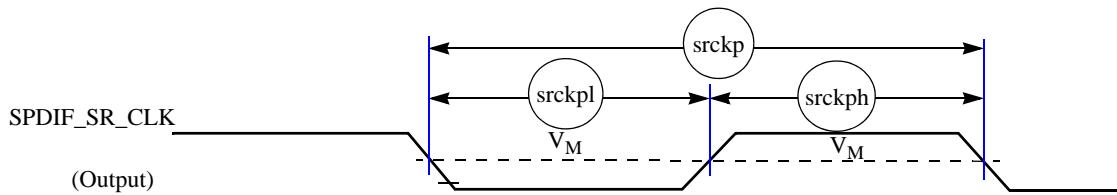
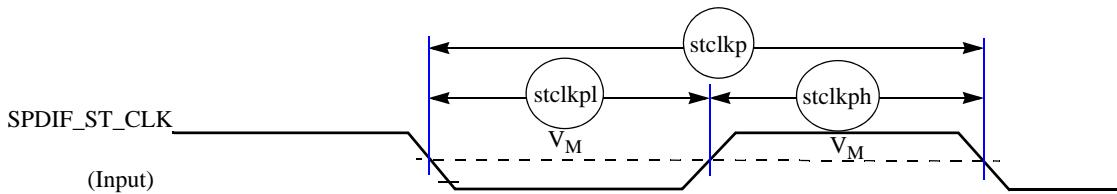

Figure 85. SPDIF\_SR\_CLK Timing Diagram
Figure 86. SPDIF\_ST\_CLK Timing Diagram
**Table 71** and Figure 85 and Figure 86 show SPDIF timing parameters for the Sony/Philips Digital Interconnect Format (SPDIF), including the timing of the modulating Rx clock (SPDIF\_SR\_CLK) for SPDIF in Rx mode and the timing of the modulating Tx clock (SPDIF\_ST\_CLK) for SPDIF in Tx mode.